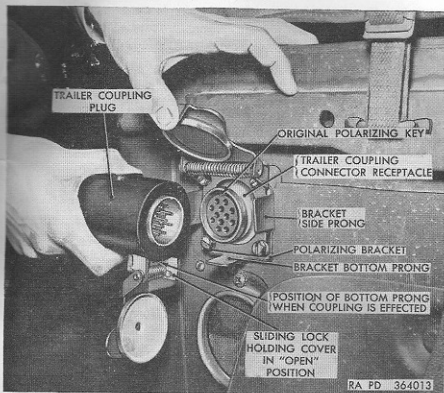

Figure 9. Trailer coupling connector receptacle.
f. Trailer Coupling Connector Receptacle. The trailer electric receptacle (fig. 9), located at the left rear corner of the body, is interconnected with the light switch. When a trailer that is equipped with lights is being towed, the receptacle provides an electrical connection from vehicle to trailer.